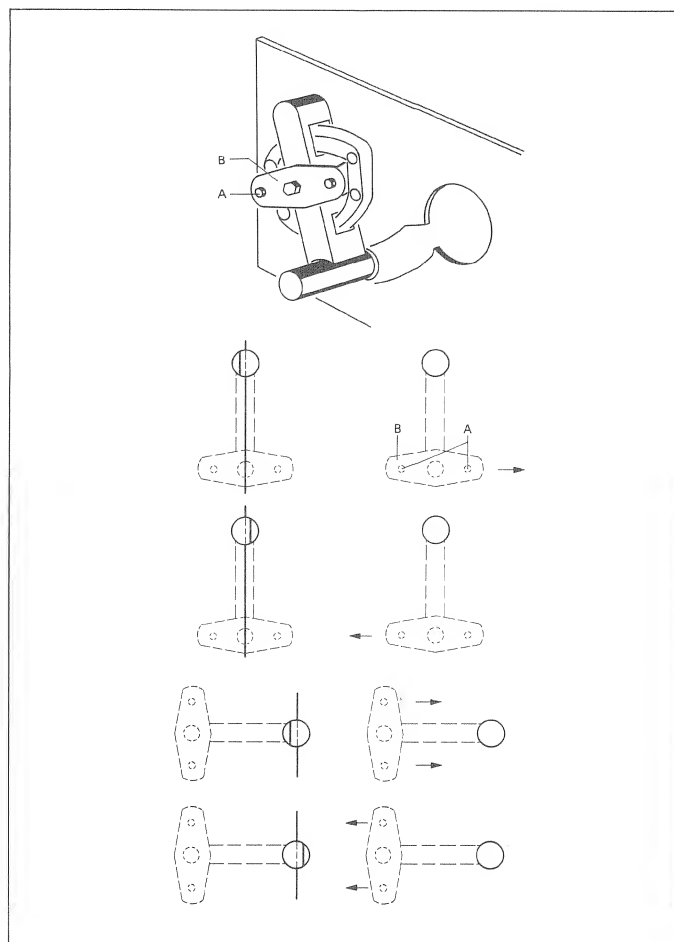

Fig. 4.22
- Unfasten screws (A) with Torx key No. 8 until the support plate (B) can be shifted.
- The support plate can now be shifted according to Fig. 4.22. Retighten the screws (A) when the position is correct.